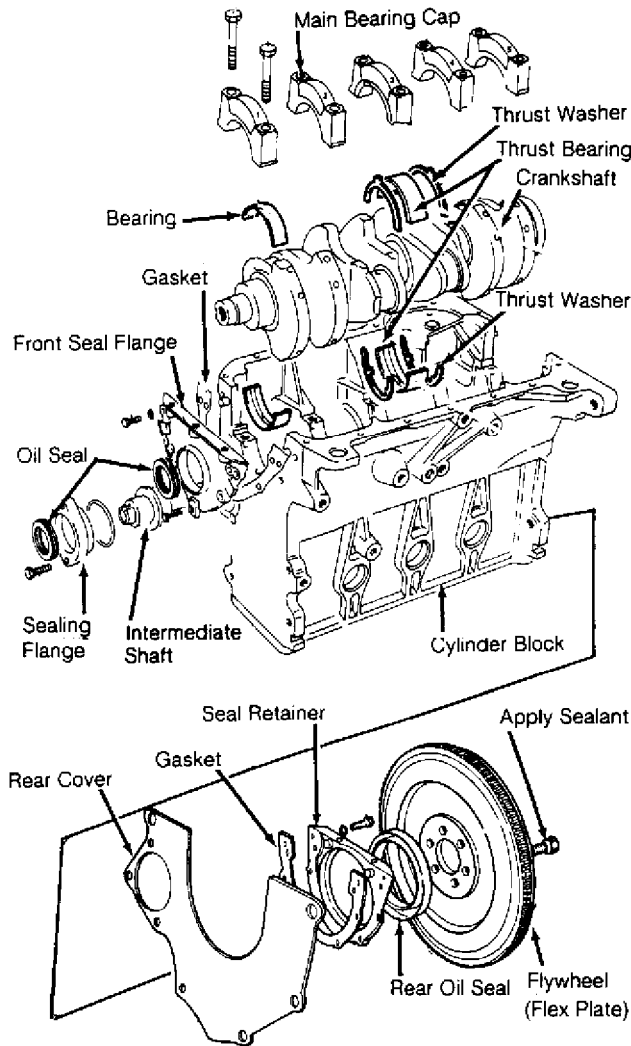

Fig. 20: Crankshaft Assembly
2) Ensure intermediate shaft end play does not exceed .010" (.25 mm). Remove intermediate shaft sprocket. Remove intermediate shaft seal flange. Remove intermediate shaft. Replace seal (if necessary). See Fig. 20. To install, reverse removal procedure.
Remove flywheel/flexplate, and discard bolts. See Fig. 20.
Main bearing caps are marked with matching journal for installation in original position. See Fig. 20. Measure crankshaft end play. See THRUST BEARING below.
Insert feeler gauge between No. 3 main bearing and crankshaft thrust face to measure end play. See Fig. 20. Replace thrust bearing as necessary. See CRANKSHAFT, MAIN & CONNECTING ROD BEARINGS TABLE under ENGINE SPECIFICATIONS at end of article.